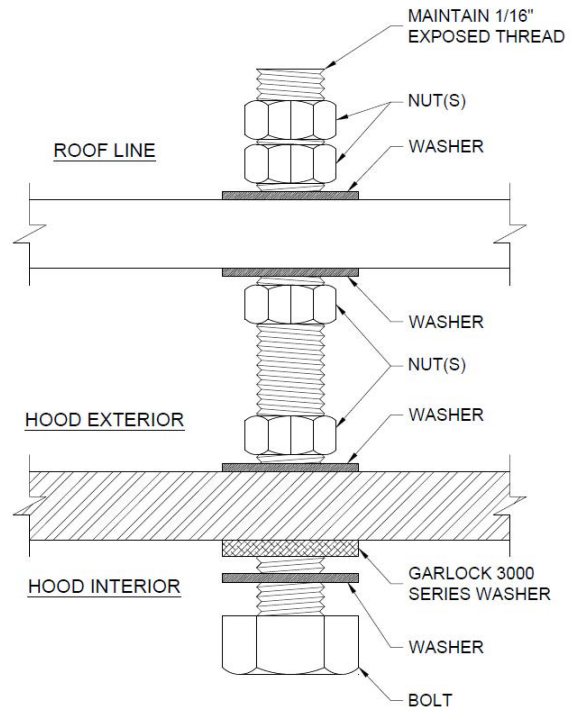

FIGURE 1
8. See Figure 1 on back side of the sheet for installation